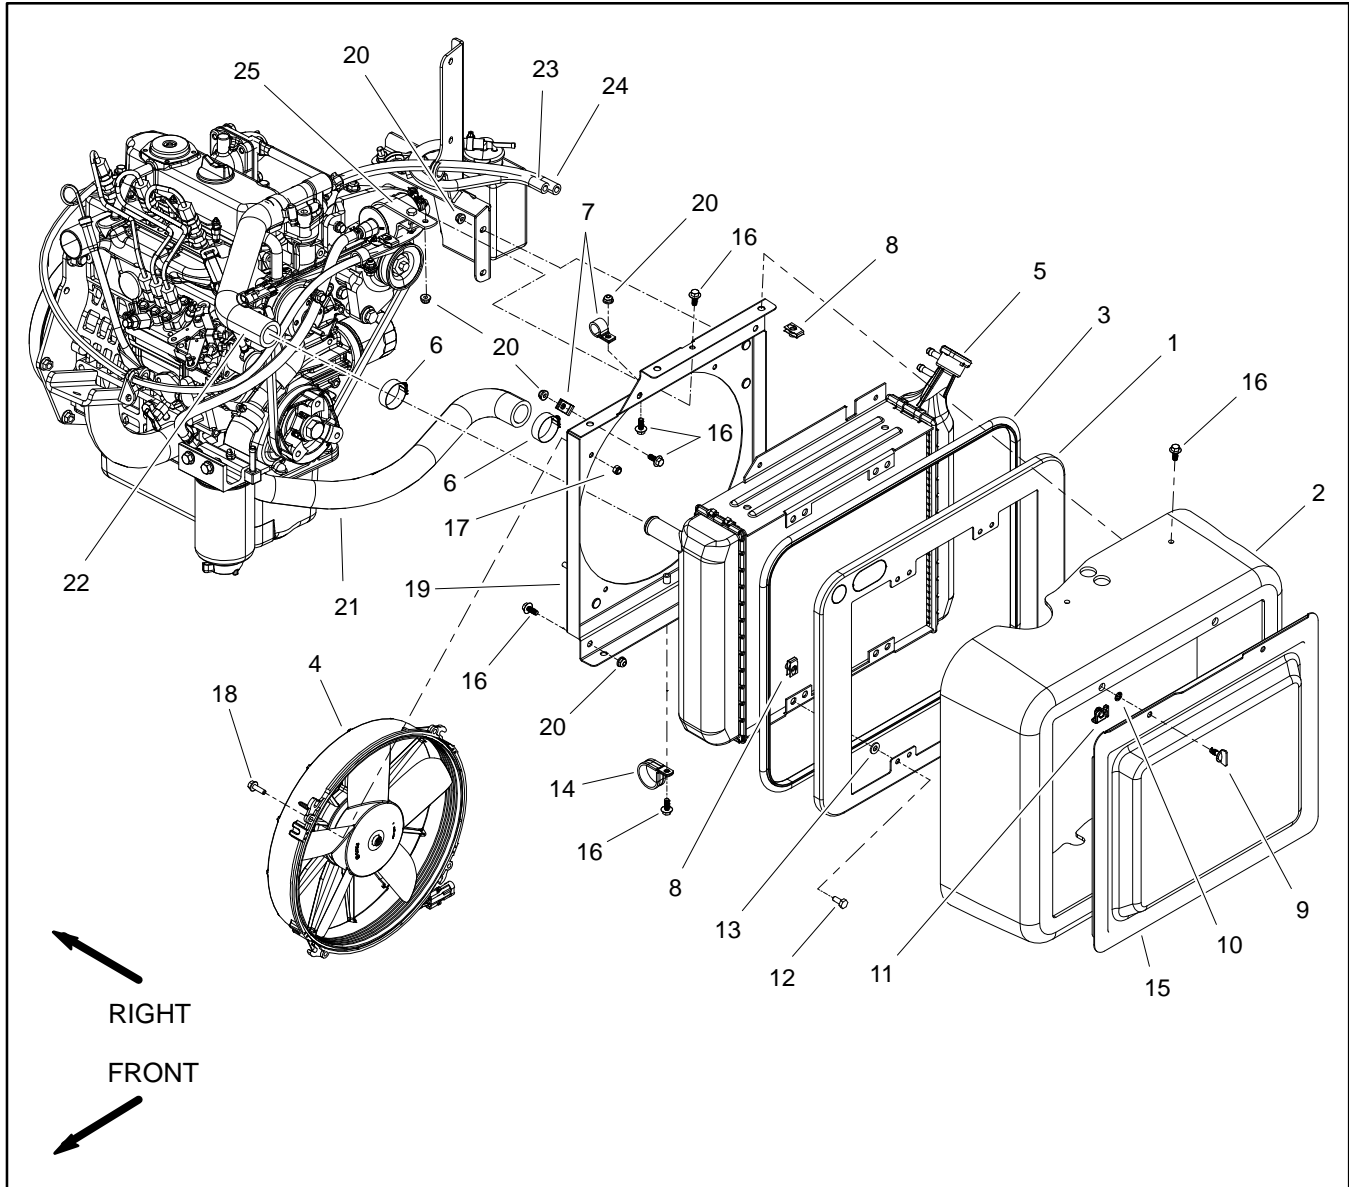

Figure 8
Radiator Removal (Fig. 8)
5. Remove four (4) flange head screws (item 16) that secure radiator shroud (item 2) to radiator assembly. Remove radiator shroud.
6. Remove flange head screw that secures R-clamp (item 14) to bottom of front shroud (item 19).
- A. Loosen hose clamps and disconnect breather hose (item 24) and overflow hose (item 23) from radiator filler neck.
- B. Loosen hose clamp (item 6) and disconnect upper radiator hose (item 22).
8. Locate splice fitting in fuel return hose near fuel pump. Disconnect one of the return hose sections from splice fitting and remove return hose from both r-clamps (item 7) on front shroud (item 19).
12. Remove four (4) flange nuts that secure front shroud to machine. Remove radiator assembly from machine.
13. Remove components from radiator as necessary using Figure 8 as a guide.
Radiator Installation (Fig. 8)
1. Assemble all removed components to radiator using Figure 8 as a guide.
2. Position radiator assembly to machine. Secure front shroud to machine with four (4) flange nuts.
5. Slide return hose through both r-clamps (item 7) on front shroud (item 19). Connect return hose sections at splice fitting and secure with hose clamp.
- A. Upper and lower radiator hoses (items 22 and 21).
- B. Breather hose (item 24) and overflow hose (item 23) to radiator filler neck.
7. Secure R-clamp (item 14) to bottom of front shroud (item 19).
8. Secure radiator shroud (item 2) to radiator assembly with four (4) flange head screws (item 16).
9. Install screen (item 15) to radiator shroud.